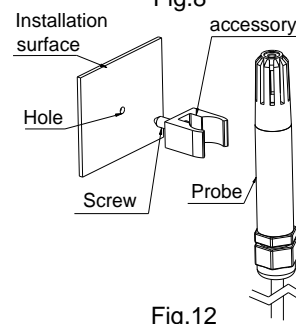

Fig.12
2. Surface installation: as shown in Fig. 12, install the accessory on the installation surface, and clamp the probe in.